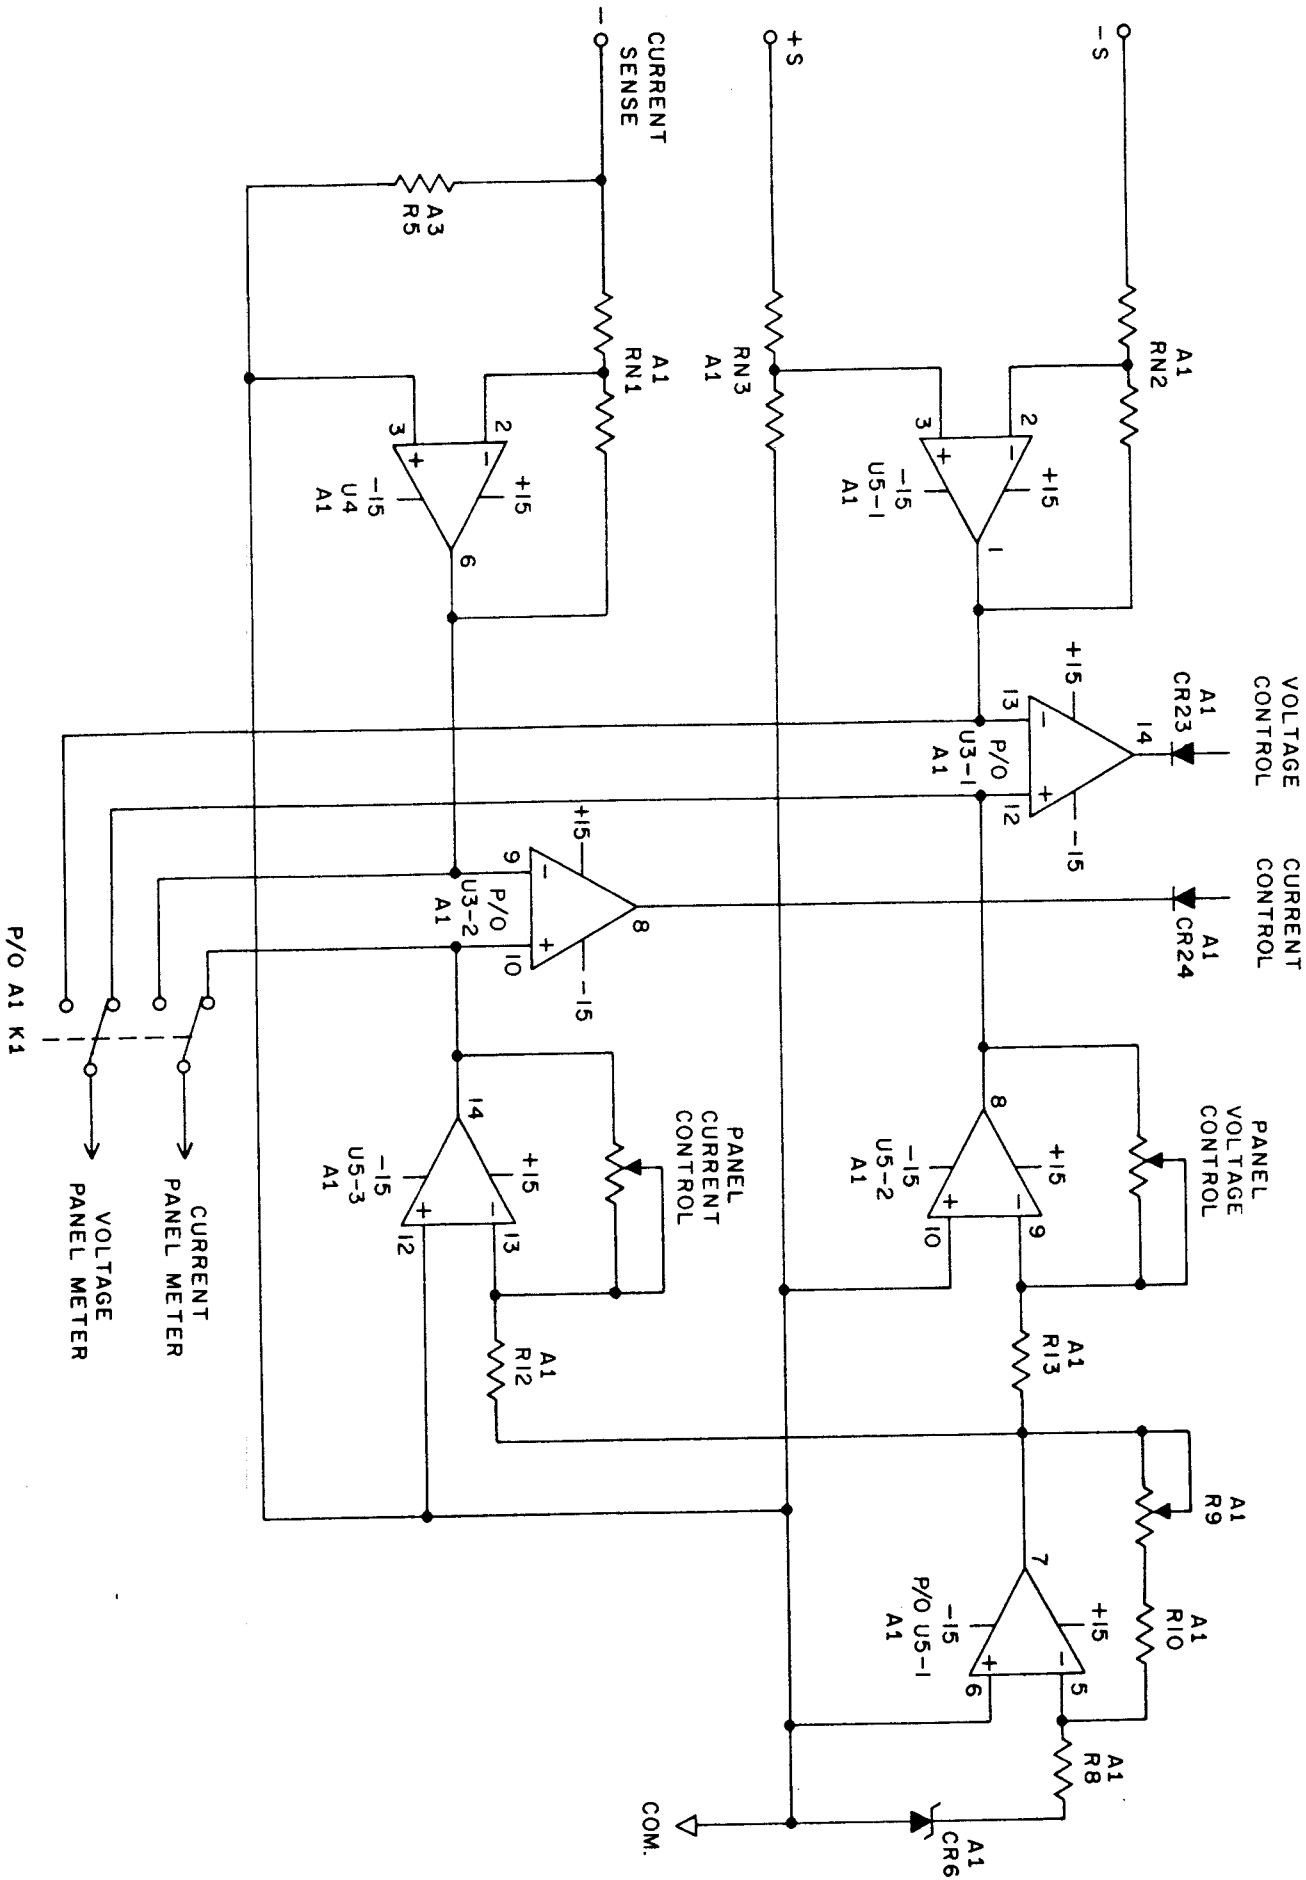

FIG. 3-1 SIMPLIFIED SCHEMATIC, VOLTAGE AND CURRENT CONTROL.
- 3-2 The following paragraph basically describes circuit operation. Refer to the simplified schematic, Figure 3-1 and the main schematic, Figure 5-1.
- 3-8 **REFERENCE VOLTAGE:** Refer to Figure 3-1. All models of the series use zener A1CR6 as the standard voltage reference. This voltage is the input to op-amp A1U5-1 as shown. Potentiometer A1R9 is a feedback resistance that is set at the factory to calibrate the reference voltage for an individual unit. The output of A1U5-1 is a stable - 10 Volts that will be proportioned to values that are used for the individual models of the MSK Series which have different output characteristics.